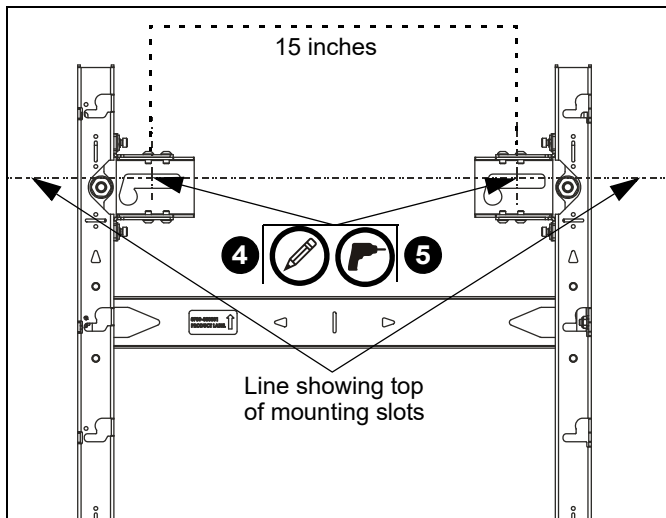

Figure 6
4. Mark mounting holes in two top mounting slots along the horizontal line marked in Step 3 of **Assessing the Installation Site** section. (See Figure 6)
NOTE: The mounting holes are 15" apart on-center. (See Figure 6)
5. Drill two pilot holes (see Table 1 for size) at each location marked in Step 4 (See Figure 6) and follow fastener information (appropriate for wall type) located in Table 1.